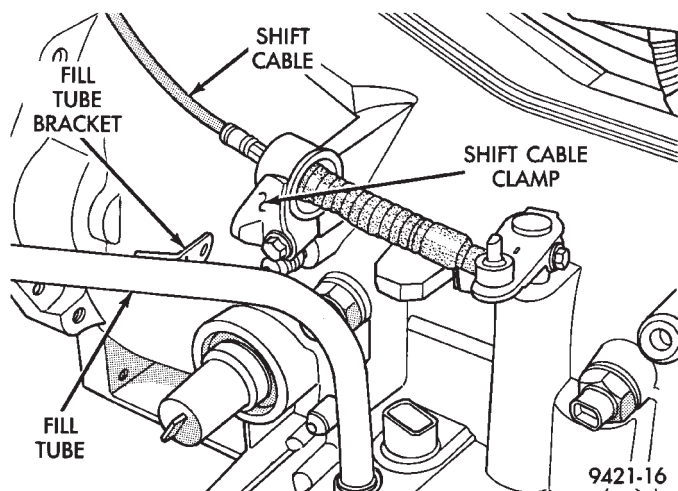

Fig. 28 Fill Tube Bracket Bolt Removal
(7) From underhood side of dash panel unseat grommet and remove cable from interior of vehicle.
(8) Raise vehicle on hoist and disconnect fill tube bracket from transaxle (Fig. 28). Rotate fill tube to gain access to shift cable clamp.